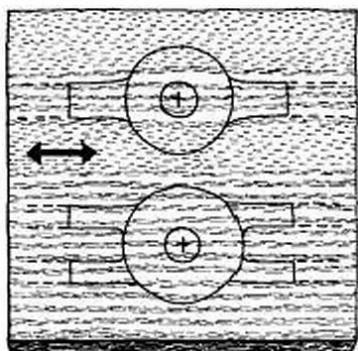

FIGURE 14-14
- 2** When you have a clear understanding of how the two collars function, use the pencil, ruler and compasses to mark them on your chosen piece of hard, close-grained, knot-free $\frac{3}{8}$ "-thick wood (Fig 14-14). Note that the designs need to be marked so the flanges are aligned with the run of the grain.